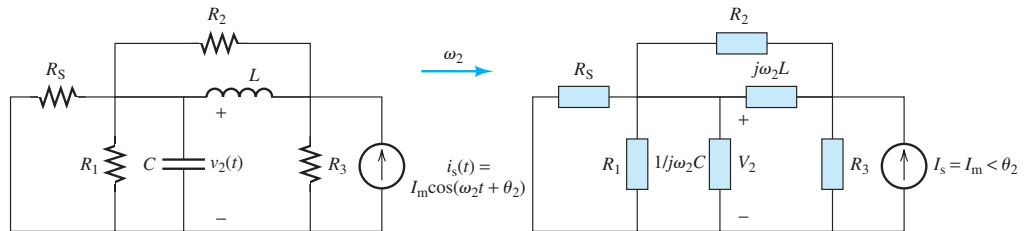

FIGURE 6.26 Circuit for Example 6.18.
2. Set $v_s(t)$ to zero to obtain the response $v_2(t)$ to $v_s(t)$. The corresponding circuit is illustrated in Figure 6.26.